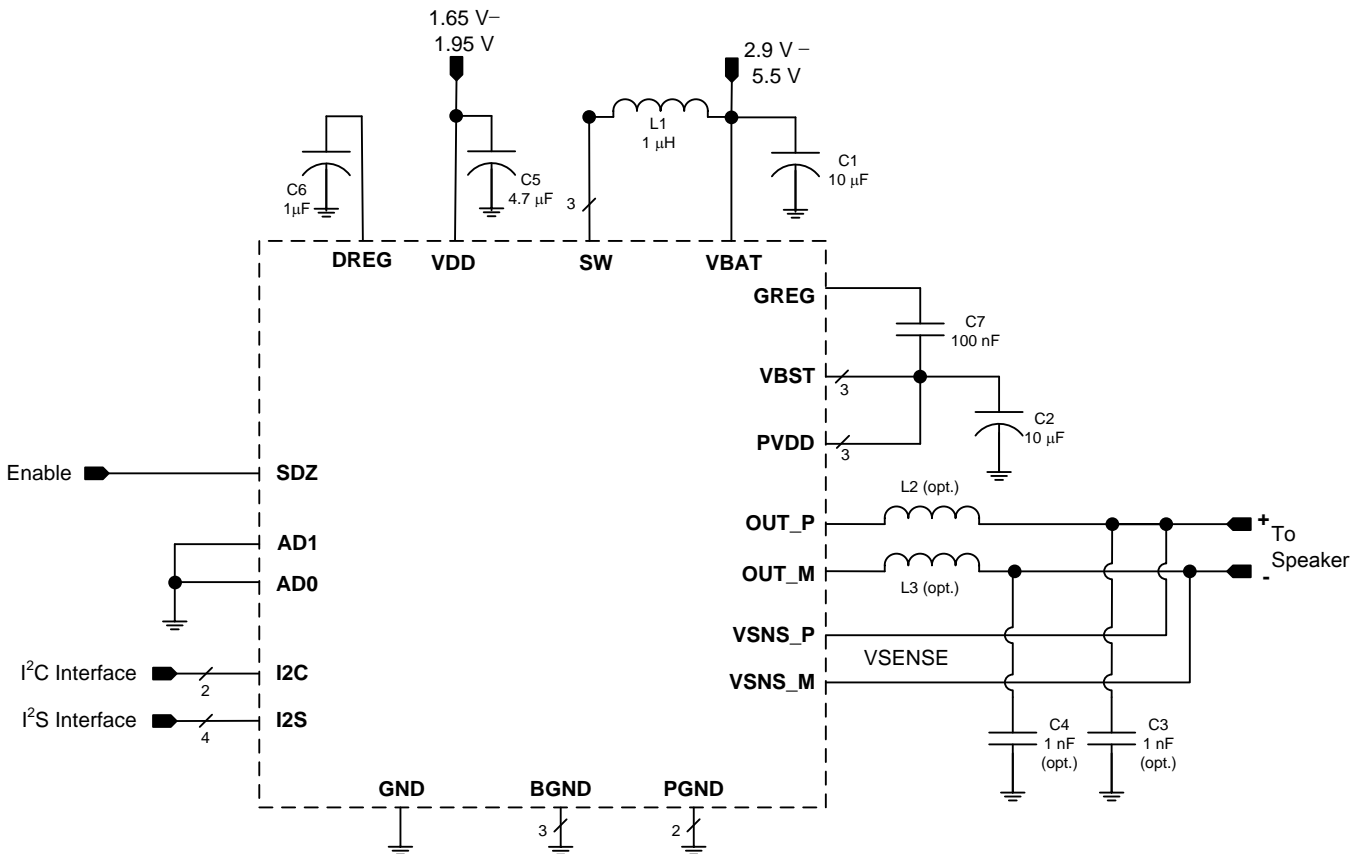

图 69. Typical Application - Digital Audio Input
The boost converter requires three passive devices that are labeled L1, C1 and C2 in 图 69 and whose specifications are provided in 表 298. These specifications are based on the design of the TAS2562 and are necessary to meet the performance targets of the device. In particular, L1 should not be allowed to enter in the current saturation region. The saturation current for L1 should be > I_{LIM} to deliver Class-D peak power.
The TAS2562 supports edge-rate control to minimize EMI, but the system designer may want to include passive devices on the Class-D output devices. These passive devices that are labeled L2, L3, C3 and C4 in 图 69 and their recommended specifications are provided in 表 298. If C3 and C4 are used, L2 and L3 must also be installed, and C3 and C4 must be placed after L2 and L3 respectively to maintain the stability of the output stage.
The boost supply (VBAT) and associated passives need to be able to support the current requirements of the device. By default, the peak current limit of the boost is set to 4A. Refer to 表 92 for information on changing the current limit. A minimum of a 10 µF capacitor is recommended on the boost supply to quickly support changes in required current. Refer to 图 69 for the schematic.
- Use supply decoupling capacitors as shown in 图 69 and described in Power Supplies.